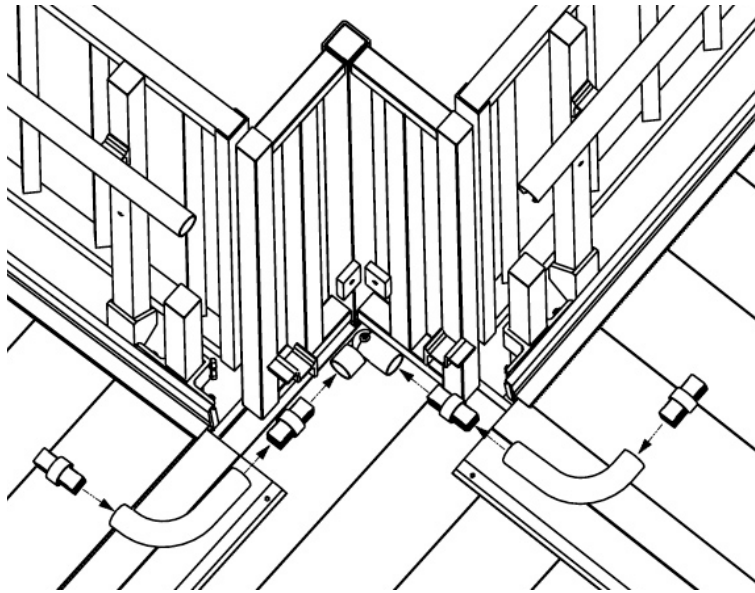

FIG. 39
- 8.7 At an intermediate turn platform on an inside corner (FIG. 39):